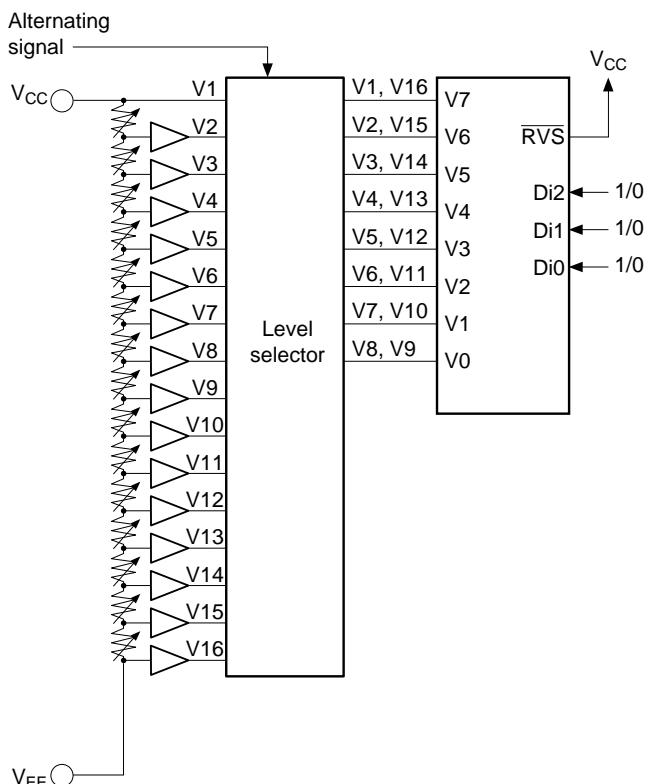
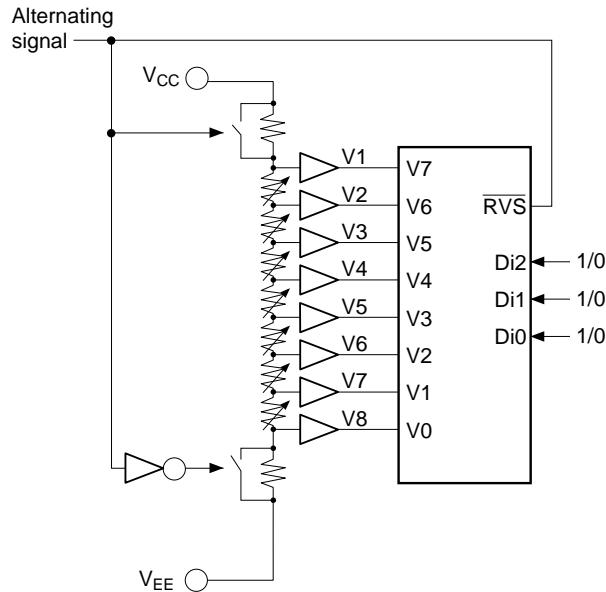
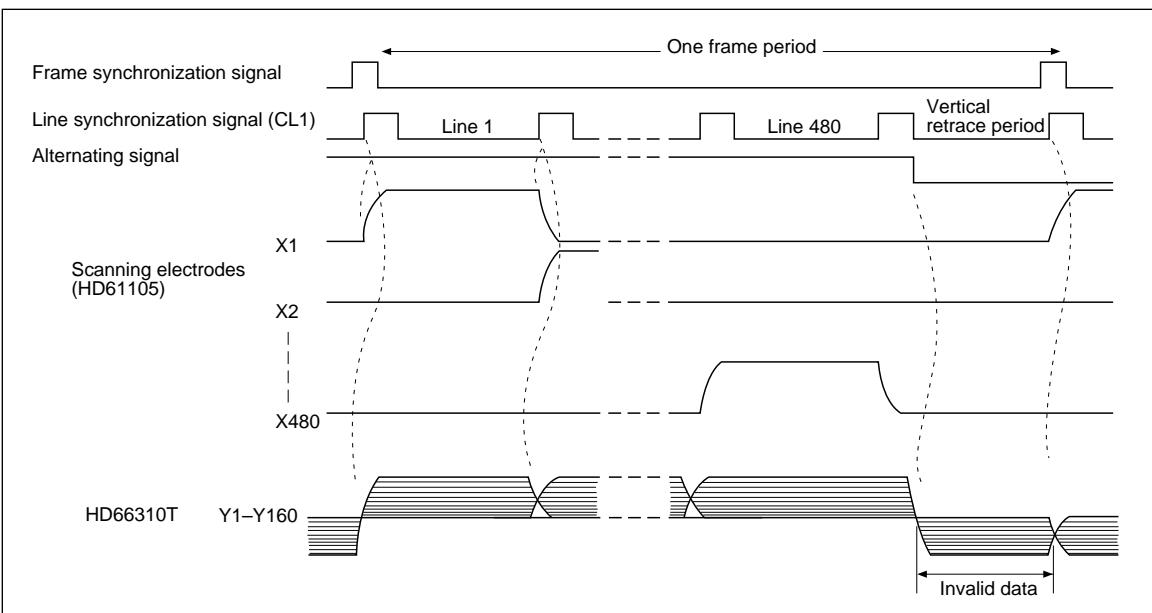

Figure 8 External Power Supply Example 1
Figure 9 External Power Supply Example 2
Figure 12 Vertical Retrace Period
Although the HD66310 has eight LCD driving voltage input levels, it can output 16 driving voltage levels using the level selector shown in figure 8, since the transfer gates of the output circuit are produced by the CMOS structure.
Figures 8 and 9 show the external power supply circuit when displaying 512 colors in the Triad
The circuit shown in figure 8 is the basic one used when displaying 512 colors in the Triad arrangement. However, the HD66310 can dispense with the level selector, as shown in figure 9, using the internal RVS (output reverse) pin. See table 1 for detailed RVS functions.
When using the RVS pins to simplify the power source, as shown in figures 9 and 10, it is recommended to add a vertical retrace period, (a scanning period in which no scan electrode is selected) at the end of a frame scanning period, as shown in figure 12, for the following two reasons.
11. However, the power supply lines immediately reverses polarity after a transition of the **RVS** signal, as shown in figures 9 and 10. Therefore, the HD66310 outputs invalid data during the last CL1 of a frame period.
- In the power supply circuits shown in figures 9 and 10, voltage temporarily becomes unstable just after the **RVS** transition, causing the LCD display to become jumbled.